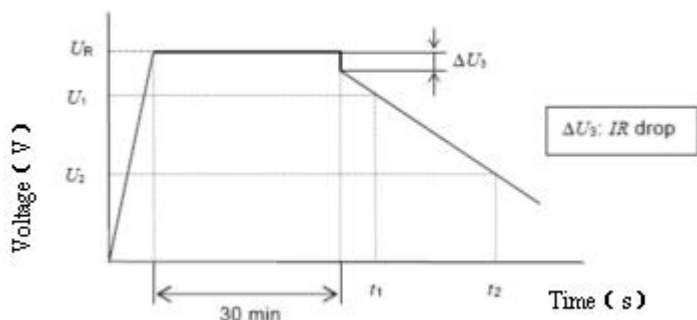

Figure 2 – Voltage characteristic between capacitor terminals
- e) Unless otherwise specified in the individual standards, measure the time t1 and t2 where the voltage between capacitor terminals at the time of discharge reduces from U_1 to U_2 as shown in Figure 2, and calculate the capacitance value by the following formula: